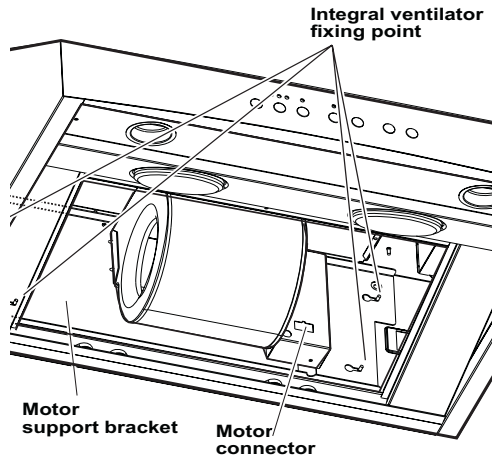
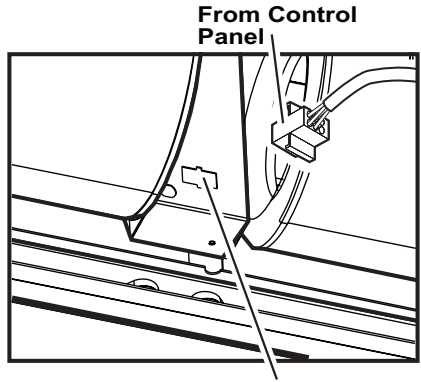

Figure 9
Figure 10 Motor connector VTN 420 or VTN 620
INTEGRAL VENTILATOR INSTALLATION (Models VTN420B or VTN620B) (see figure 9)
1. Connect the Integral Ventilator mox plug connector to the connector present inside the hood as shown in **Figure 9** or **Figure 10**.